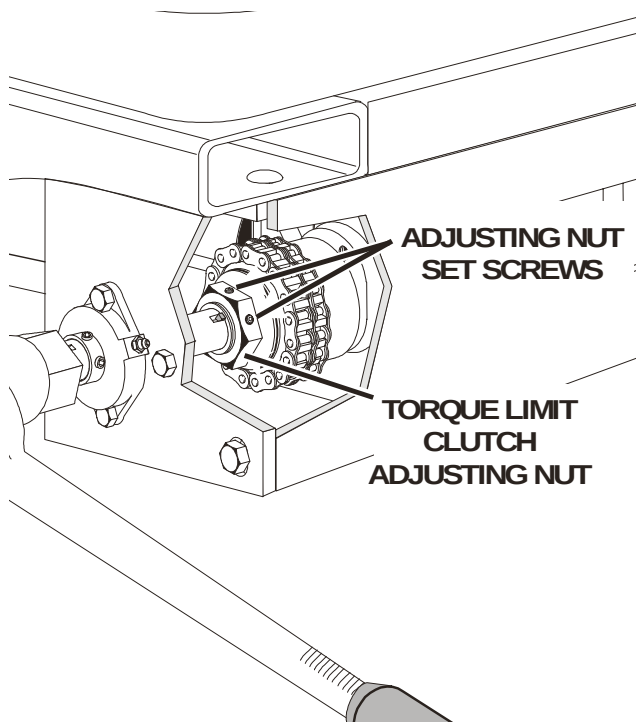

Figure 2-3. Torque Limit Clutch - Adjustment Components.
1. Loosen the two (2) adjusting nut setscrews located on the large adjusting nut on the clutch assembly. (See Figure 2-3.)
4. When proper torque setting is achieved, re-tighten the two (2) adjusting nut, setscrews.